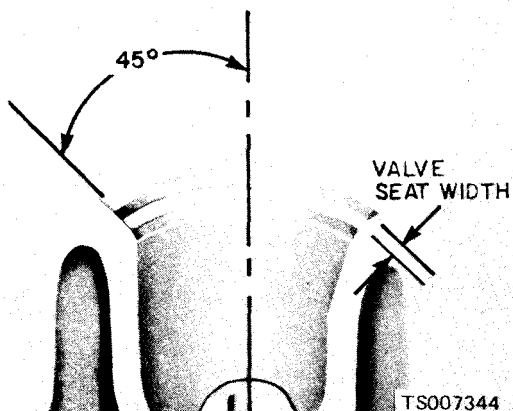

Figure 6-15. Valve Seat Refacing.
(1) Grind the valve seats to a true 45 degree angle (figure 6-15). Remove only enough stock to clean up pits and grooves or to correct the valve seat runout. After the seat has been refaced, use a seat width scale or a machinist scale to measure the seat width. Narrow the seat, if necessary, to bring it within specifications.